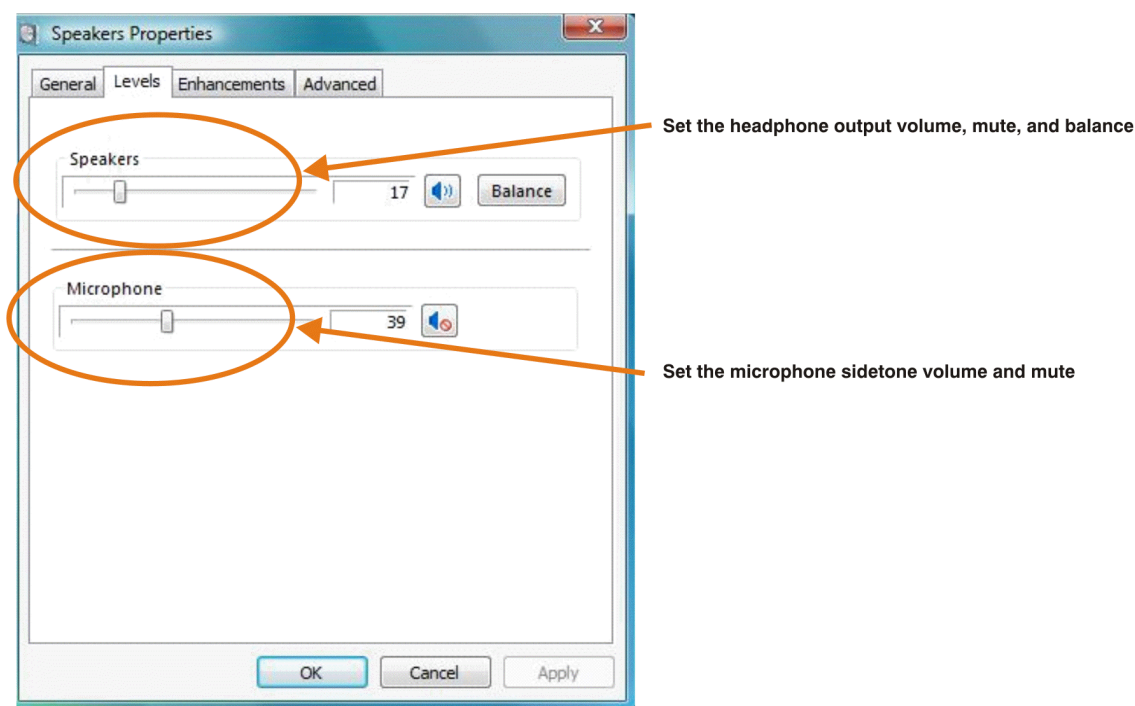

Figure 3-3. Speakers Properties—Levels Tab (Windows Vista)
- Step 2. Open the speaker properties of the USB audio codec from the Sound options and select the *Levels* tab, as Figure 3-3 illustrates.